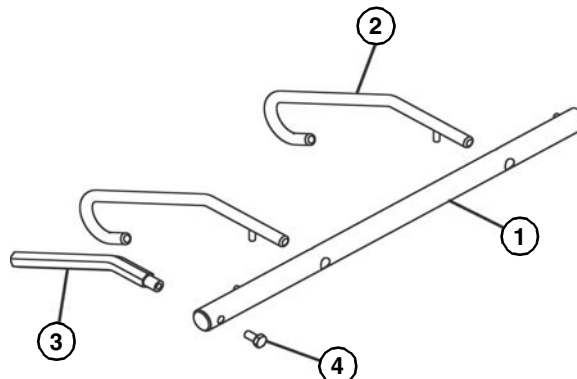

**Figure 20**
4. Ensure that the nose bar pucks (Figure 20, item 1) are in line with the conveyor frame (Figure 20, item 2).